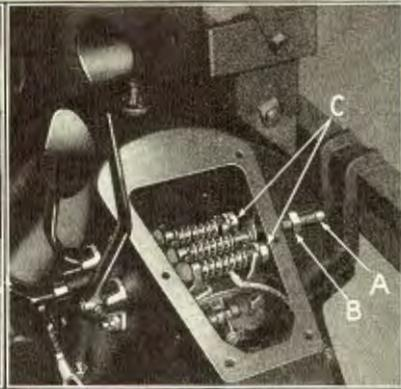

Fig. 307
- 524** Adjust low speed band by running in the adjusting screw (See "A" Fig. 307) on outside of cover and running down lock nut "B" tightly against cover.